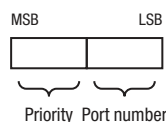

Figure 51: Port Identifier
- ▶ When multiple paths with the same root path costs lead from one bridge to the same bridge, the bridge further away from the root uses the port identifier of the other bridge as the last criterion (see figure 51). In the process, the bridge blocks the port that leads to the port with the numerically higher ID (a numerically higher ID is the logically worse one). When 2 ports have the same priority, the port with the higher port number has the numerically higher ID, which is logically the worse one.